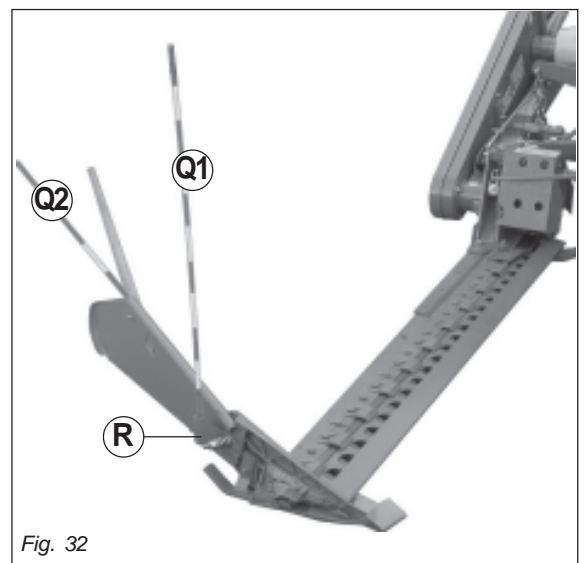

Fig. 32
The hazard bar has been included with the equipment of the machine for safety reasons, to indicate the space occupied by the mower at work. For working, position the hazard bar in position (Q1, Fig. 32) and lock it in place with the screw (R). For transport put it in position (Q2).